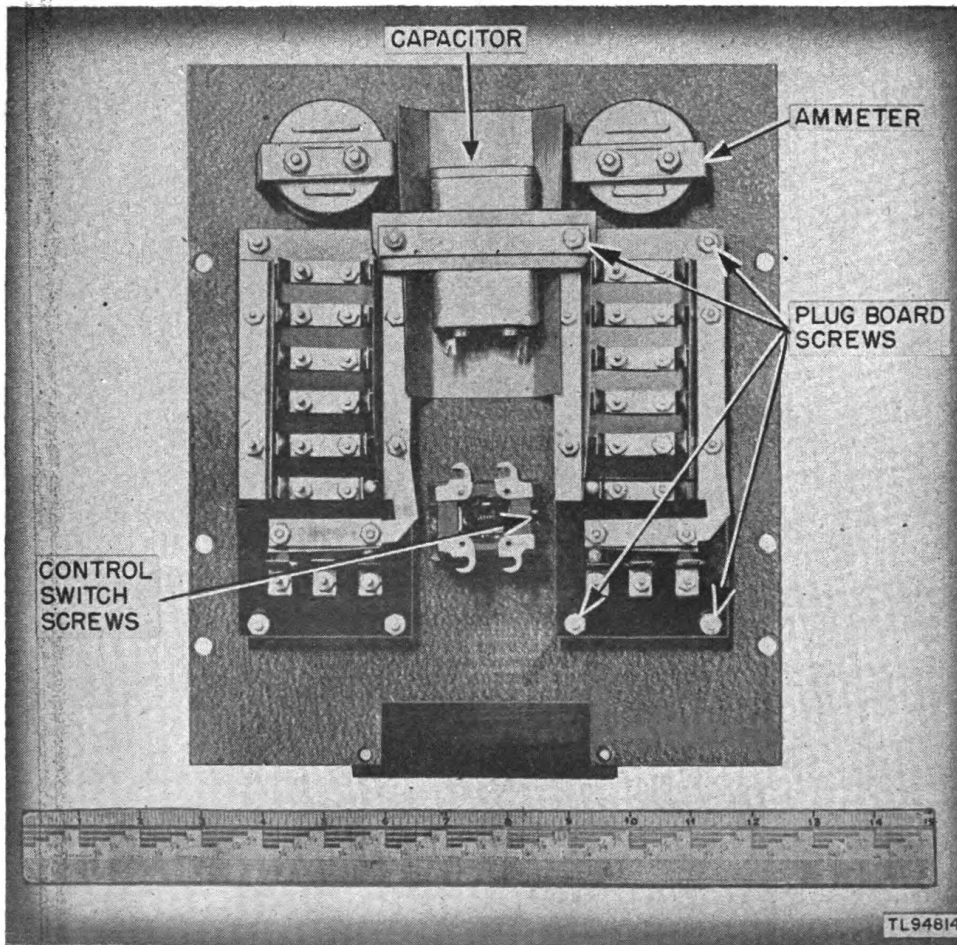

Figure 16. Rectifier RA-36-(1) and rectifier 6RB6B17, rear view of control panel.
- (6) Remove the four screws located in the four corners of each of the two charging rate adjustment panels (plug boards) mounted on the front panel, and remove plug boards and capacitor. (See fig. 16.)
- (7) Remove the two screws used to mount the ON-OFF control switch. (See fig. 16.)